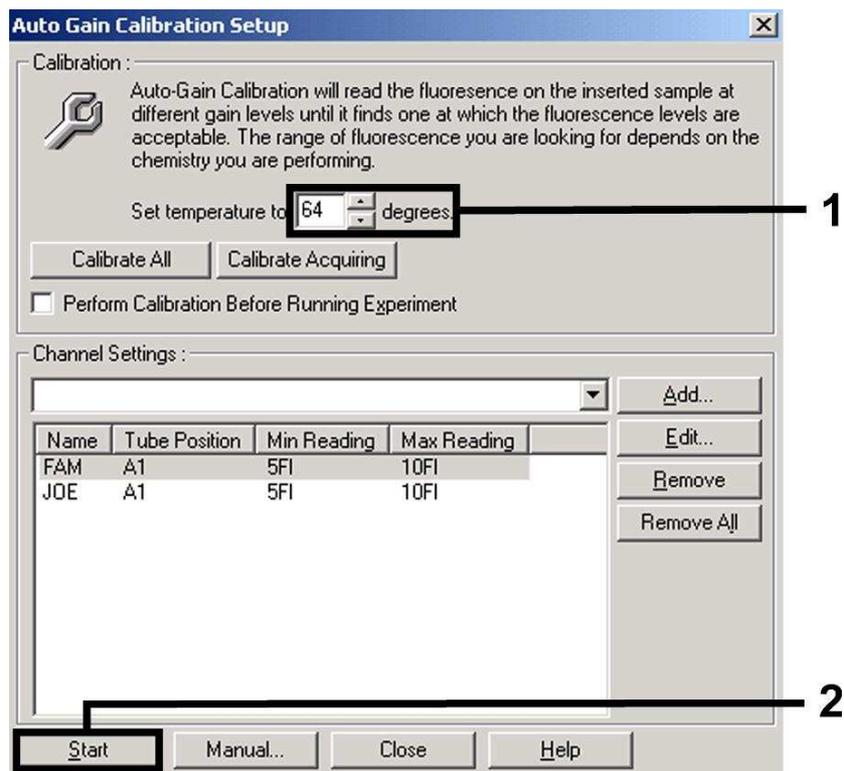

Fig. 6: Adjustment of the Fluorescence Channel Sensitivity.
- D. Adjustment of the Fluorescence Channel Sensitivity Fig. 6
The detection range of the fluorescence channels has to be determined according to the fluorescence intensities in the PCR tubes. This adjustment is done in the menu window *Auto Gain Calibration Setup* (activation in menu window *New Experiment Wizard* under *Calibrate*). Please set the calibration temperature to the annealing temperature of the amplification programme (see Fig. 6).